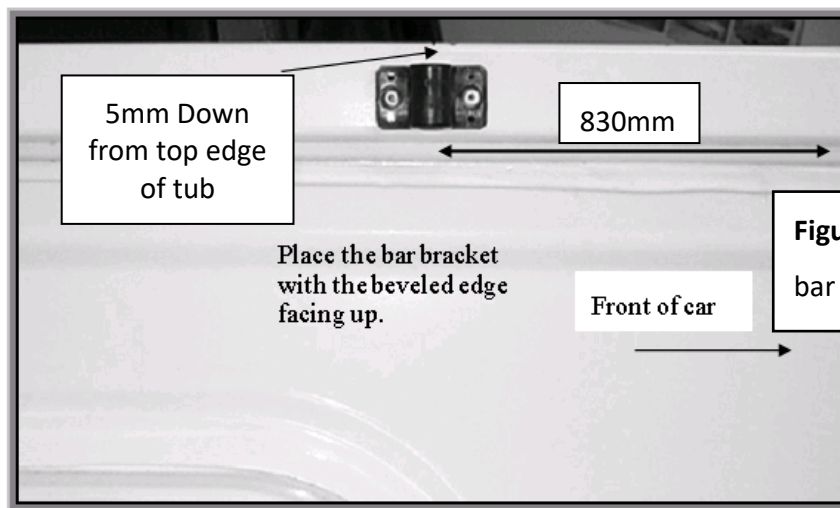

Figure 2: Placement of bar bracket
5. To fit the bar brackets, measure 830mm back from the inside front edge at the top of the tub and place them as shown in **Figure 2.** (5mm from top edge of tub). Drill and rivet using two large rivets for each Bar Bracket.